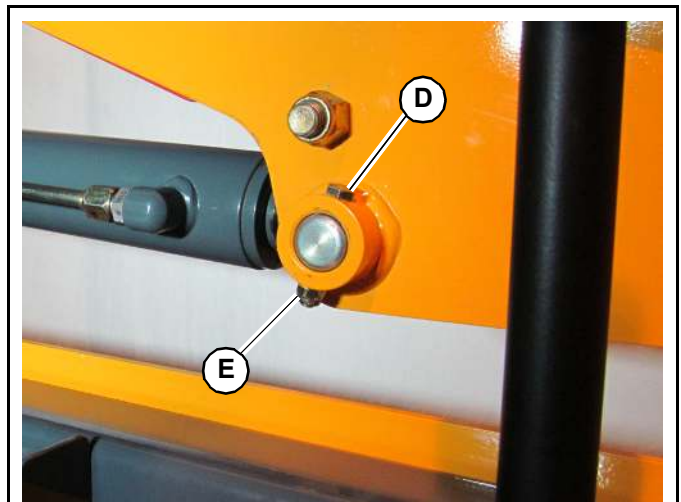

Fig. 211 – Rod End Pivot Pin, Cap Screw, and Locknut
3. Install cap screw (D, Fig. 211) and locknut (E).